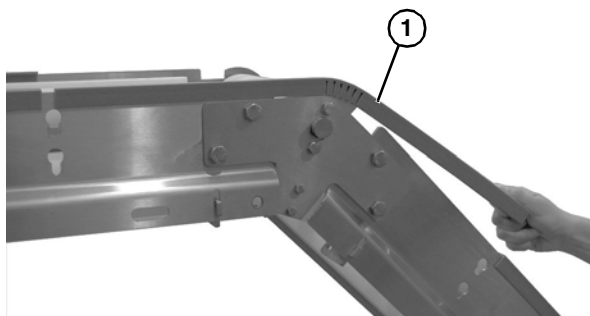

Figure 9
2. Attach bar cap (**Figure 9, item 1**) to frame and knuckle.